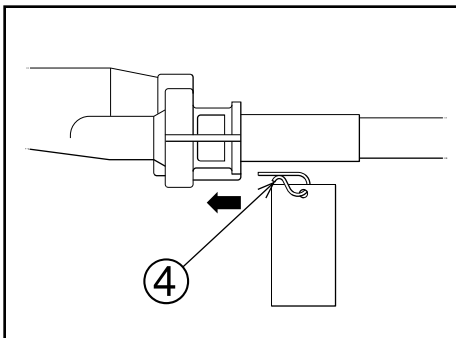
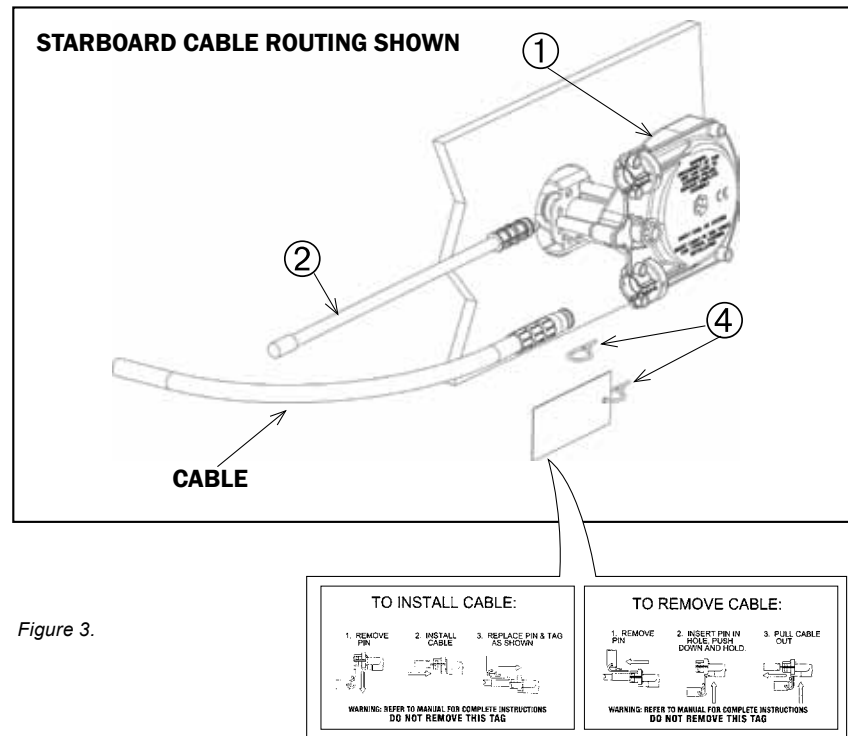

Figure 4.
Figure 3.
**STEP 2.** Remove protective sleeve from cable end, making sure that dirt does not get onto the lubricated cable end. Feed cable end into **LOWER** (starboard cable routing) helm entry spigot until it contacts the internal gear, then turn steering wheel to draw cable fully into the helm, (see Figure 3). Continue turning the wheel after the cable end enters the helm spigot. Some pressure will be felt and there will be an audible click as the locking mechanism engages. Continue turning past that point until the wheel cannot be turned any further. Turn steering wheel fully in the other direction until it cannot be turned any further, check that cable end fitting is retained inside the entry spigot.
**STEP 3.** Replace pin as shown in Figure 4, making sure that it is fully seated. If pin cannot be inserted, the cable is not fully seated in the helm. Push on cable to ensure that it is fully home. **DO NOT REMOVE TAG FROM PIN.**
**STEP 5.** Feed spent travel tube (item 2, Figure 3) over the exposed cable end until you hear it click into place in the helm spigot. Then insert pin as shown in Figure 4 until it is fully seated.